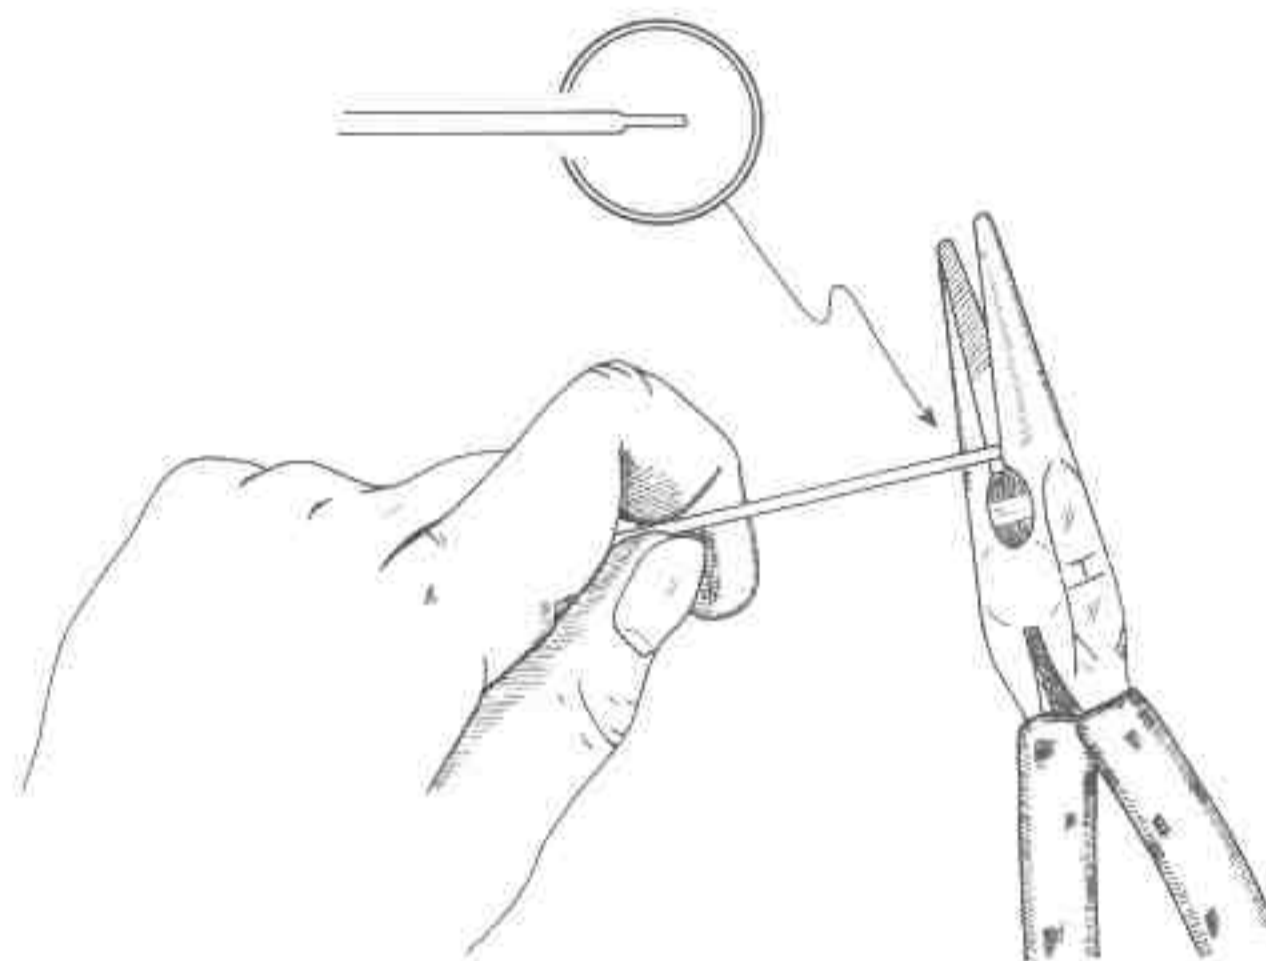

Figure 14
- (✓) Form another bend 1/2" in from the end, back towards itself in a half circle. Flatten the end slightly so it will go through the switch terminal. See Figure 14.
- (✓) Push the long hooked end of the #14 wire under the bandswitch center shaft and insert 1/8" of the flattened end into bandswitch terminal #1 (S). See Pictorial 3.
- ( ) Insert the bare lead down through the inside hole on the solder lug on IN-2 and out towards the rear of the chassis until the 1/8" bent end comes even with the remaining end solder terminal on the 3-gang capacitor. Push the end down in the terminal hole (S). See Pictorial 3.
- (✓) Flatten the end 1/4" by squeezing with pliers (see Figure 14). Align flat to pass through the #2 terminal on the bandswitch (S).
- (✓) Maintain the capacitor tight against the chassis with one end even with the vent slot. Form one end to fit up into bandswitch terminal #3 (NS). See Pictorial 3.
- (✓) Cut a piece of #14 tinned wire 2 7/8" long. Flatten 1/4" of one end slightly. See Figure 14.
- (✓) Insert the unflattened end through the inside hole on the solder lug on the feed-through insulator IN-1 below the 6DQ6A socket (NS).
- (✓) Form the flattened end over and connect it to the #8 terminal on the bandswitch (S). Avoid shorting to the nut on the bandswitch.